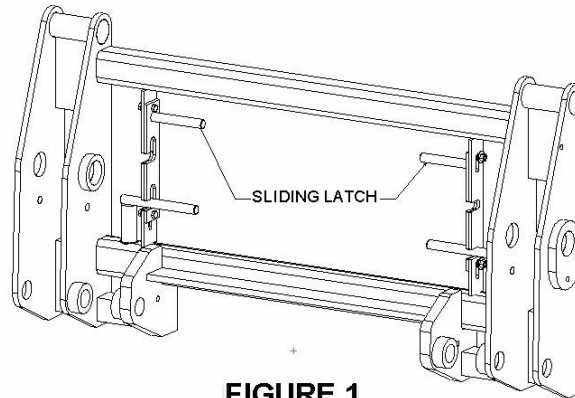

FIGURE 1.
COMPOSITE BEARINGS. The P-12 loader you have purchased has composite bearings in two locations (see Figure 1 below). These bearings have a self-lubricating feature that will last the life of the loader. They do not require grease. They are heavy-duty bearings specifically designed for high impact loads, high and low temperatures, and dirty environments.
STEP 1 Attach the front mount to the tractor. Any weight brackets, tool boxes or other items that will interfere with the loader must be removed at this time. Tighten front mount bolts securely. See Fig. 1
STEP 1 Approach the loader as shown in Figure 1 and connect the hydraulic hoses.
STEP 1 *DRIVE THE TRACTOR TO FIRM, EVEN GROUND* and place the loader in the position shown in Fig 1.
1. Raise sliding latches as shown in Figure 1.
3. Rotate QT pins out of the upper notches, lower, and then rotate them into the lower notches on the sliding latches as shown in Figure 1. **NOTE:** If the QT pins do not easily slide thru the lug on the attachment, do not force them. Simply rotate the attachment back and forth slowly with the bucket cylinders of the loader and the QT pins should fall into place. Periodically grease the QT pins and sliding latches.